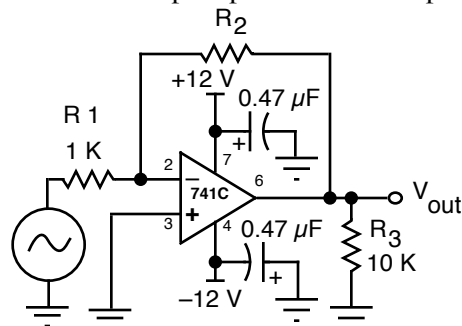

Fig. 6.5
e) *Slew Rate*. (optional) Connect the circuit of Fig. 6.5 choosing R_2 between 100 k Ω and 1 M Ω . Measure the slew rate of the 741C op amp and the FET input op amp.